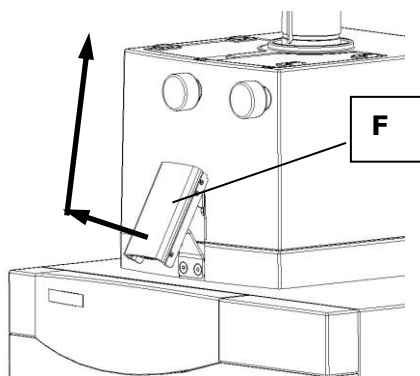

Fig. 1
- Hold the closing grip **F** at the bottom and pull. **Fig.1**
- Pull the hood upwards with the grip to open. **Fig.1**